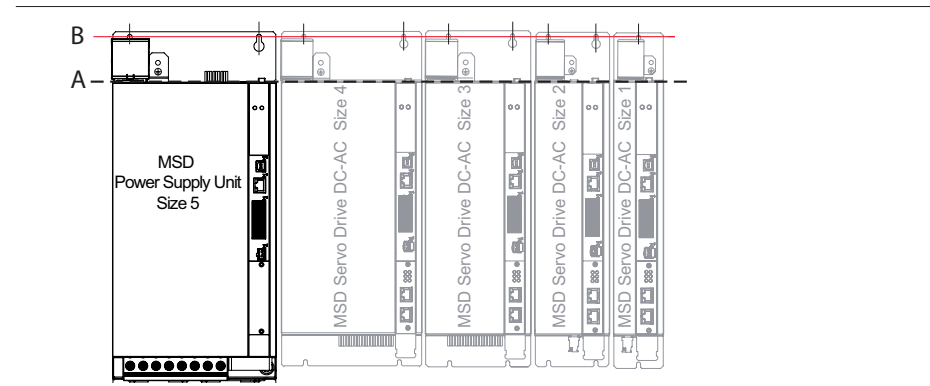
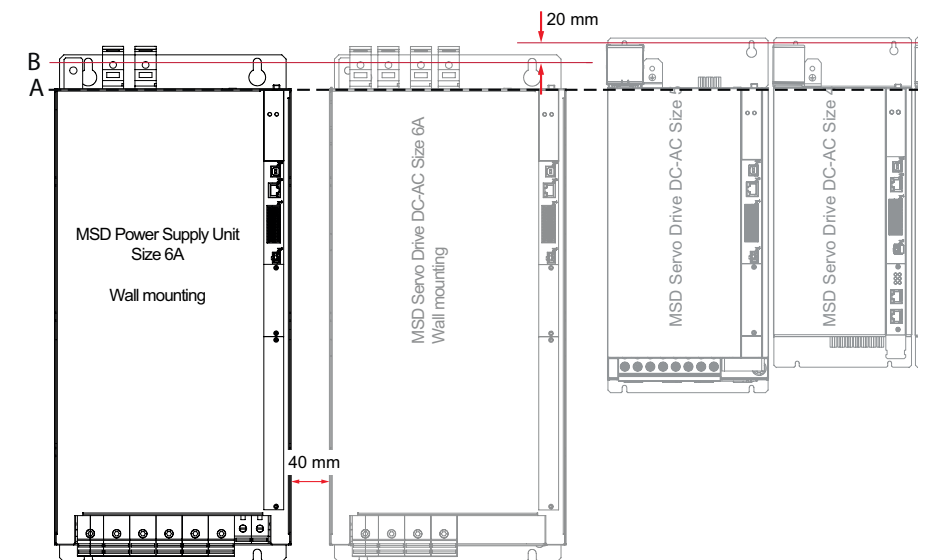

Figure 3.8 Alignment of DC-AC Servo Drives in relation to Power Supply Unit Size 5 (example)
Figure 3.9 Alignment of DC-AC Servo Drives in relation to Power Supply Unit Size 6A (example)
Devices of Size 6A in the air cooling housing variant are an exception. The mounting distance between two Size 6A devices is 40 mm (1.57 in) (see Figure 3.9).
1.	<p>Arrange the devices starting from the Power Supply Unit to the right or/and left sorted in descending order by power rating to minimise the thermal effects.</p> <ul style="list-style-type: none"> Align all DC-AC Servo Drives and the Power Supply Unit Size 5 in a line along the top edge of the devices (see line A in Figure 3.8) to be able to make the DC link connections. Align all DC-AC Servo Drives and the Power Supply Unit Size 6A in a line along the top edge of the devices (see line A in Figure 3.9). This action is necessary to be able to make the DC link connections. Move down the mounting bores for MSD Servo Drive DC-AC Size 6A and the Power Supply Unit Size 6A by approx. 20 mm (0.787 in) (see red line B in Figure 3.9).